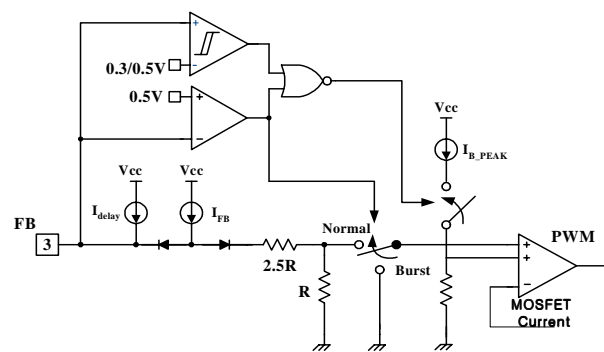

Figure 8. Circuit for Burst operation
**5. Soft Start :** The FPSTM has an internal soft start circuit that increases the feedback voltage together with the Sense FET current slowly after it starts up. The typical soft start time is 14msec, as shown in figure 8, where progressive increments of Sense FET current are allowed during the start-up phase. The pulse width to the power switching device is progressively increased to establish the correct working conditions for transformers, inductors, and capacitors. The voltage on the output capacitors is progressively increased with the intention of smoothly establishing the required output volt-